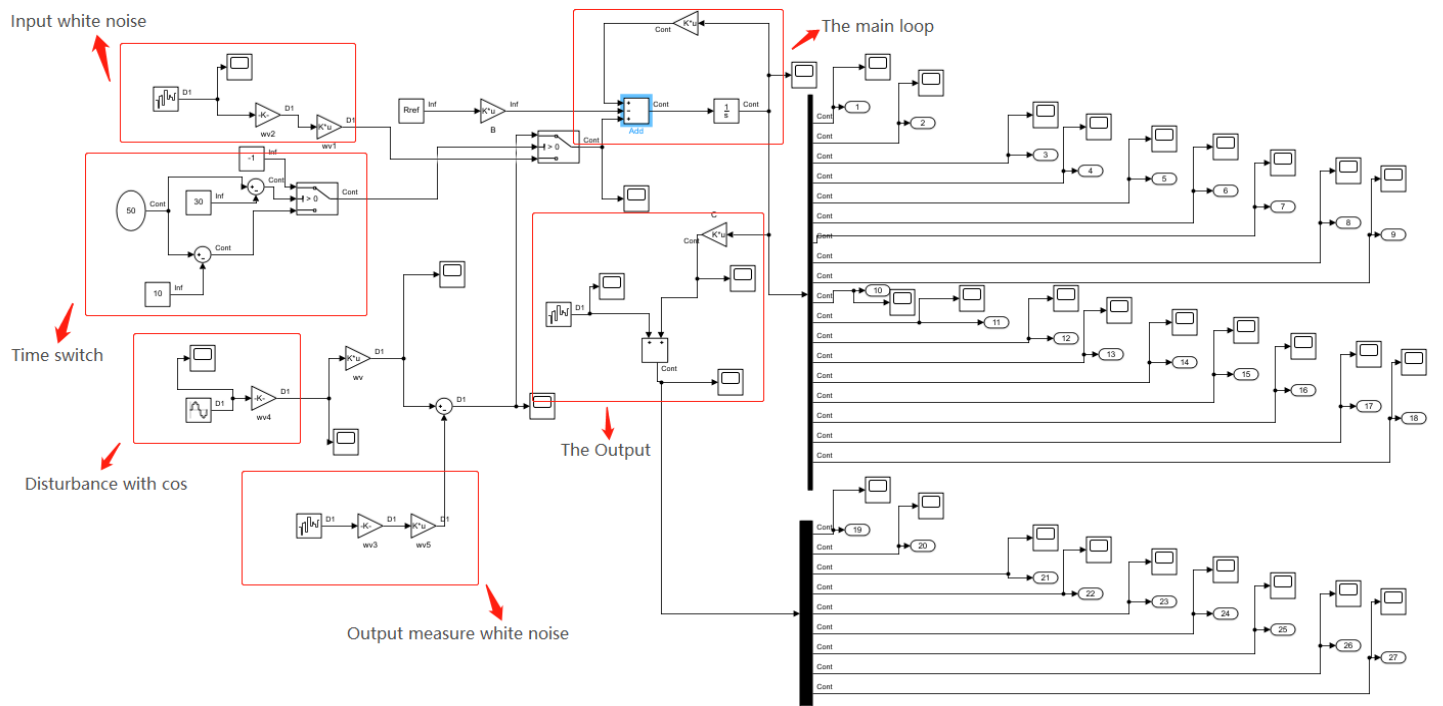

Figure 1: The Unmanned Helicopter LQG Controller diagram
3. **Part2: Results** First, I will give the simulink block diagram show figure 1, It has 6 main block, the detail can be found in figure 1: